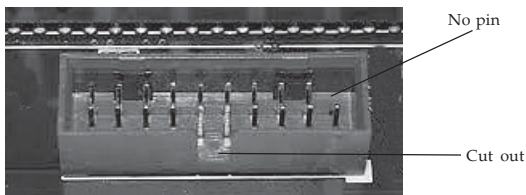

Figure 3: USB 3.0 20-pin Header on the motherboard
9. Insert the other end of the USB 3.0 data cable into the motherboard's USB 3.0 20-pin Header. Align the **Tab** on the cable's 20-pin connector with the **Cut out** on the motherboard's 20-pin header and press firmly, yet gently for a solid connection, see **Figure 3** on page 5 for more information.